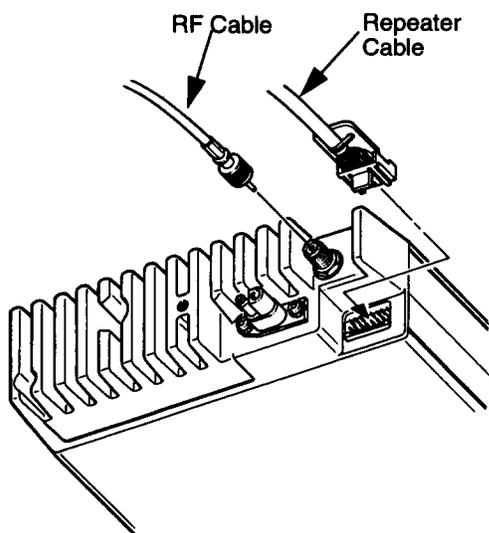

Figure 2-3. GM300 Receive Radio, Rear View
2. Connect the mini-UHF end of the first RF cable to the RF connector of the receive radio (refer to Figure 2-3).
3. Connect one end of the first repeater cable to the accessory connector of the receive radio (refer to Figure 2-3).